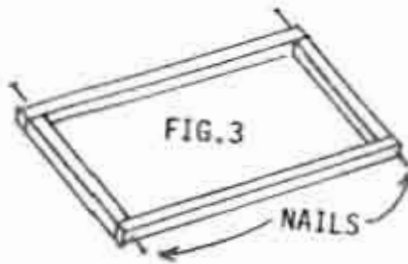

FIG. 3
Step 3 First floor assembly. Note the first and third floors are the same size. Since the bottom of the first floor is not visible when the house is assembled be sure to use the better pc. (if there is a difference) for the third floor. The first floor consists of one 1/4" pc. of plywood 15 7/8" W x 29 1/4" L and two pcs. of wood 3/4" sq. x 14 3/16" L and two pcs. of wood 3/4" sq. x 29 1/4" L. Glue and nail the four pcs. of wood with four 1 1/2" nails. See Fig. 3. Next glue and nail the plywood floor (smoothest side up) to the frame with fourteen 7/8" nails, three along each short side and four along the long sides.